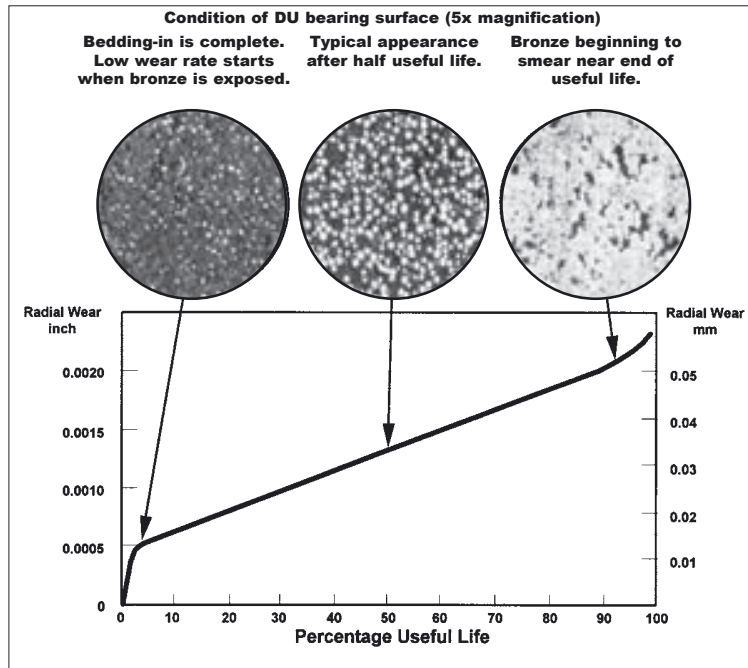

Fig.: 2 Residual Life Guide
4.5.2 The Metal backed Bronze-PTFE bearings may be inspected and assessed for replacement, referring to guide (see Fig.: 2) on the useful residual life